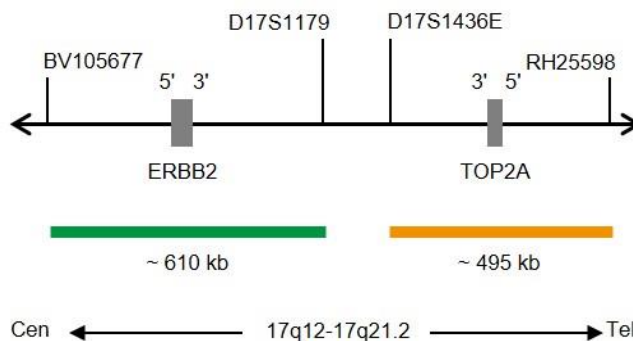

Fig. 1: SPEC ERBB2/TOP2A Probe map (not to scale)
- ZyGreen (excitation 503 nm/emission 528 nm) labeled polynucleotides (~10 ng/ $\mu$ l), which target sequences mapping in 17q12-q21.1\* (chr17:37,572,531-38,181,308) harboring the ERBB2 gene region (see Fig. 1).
- ZyOrange (excitation 547 nm/emission 572 nm) labeled polynucleotides (~4.5 ng/ $\mu$ l), which target sequences mapping in 17q21.1-q21.2\* (chr17:38,323,741-38,818,030) harboring the TOP2A gene region (see Fig. 1).